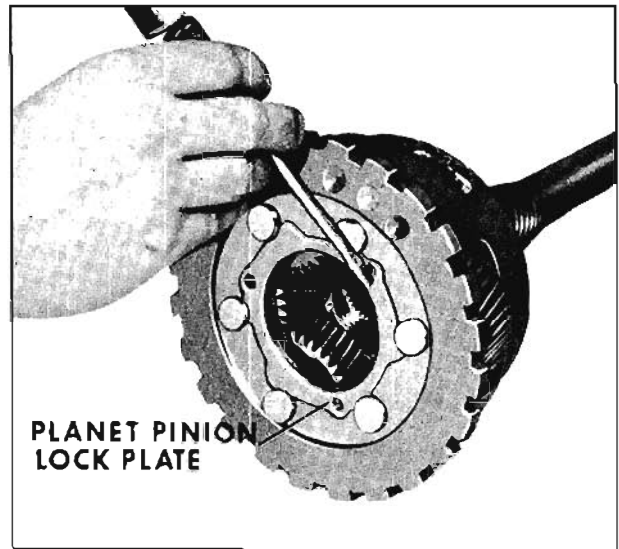

Fig. 6-385 Removing Lock Plate
2. Rotate planet pinion lock plate and remove. (Fig. 6-385)